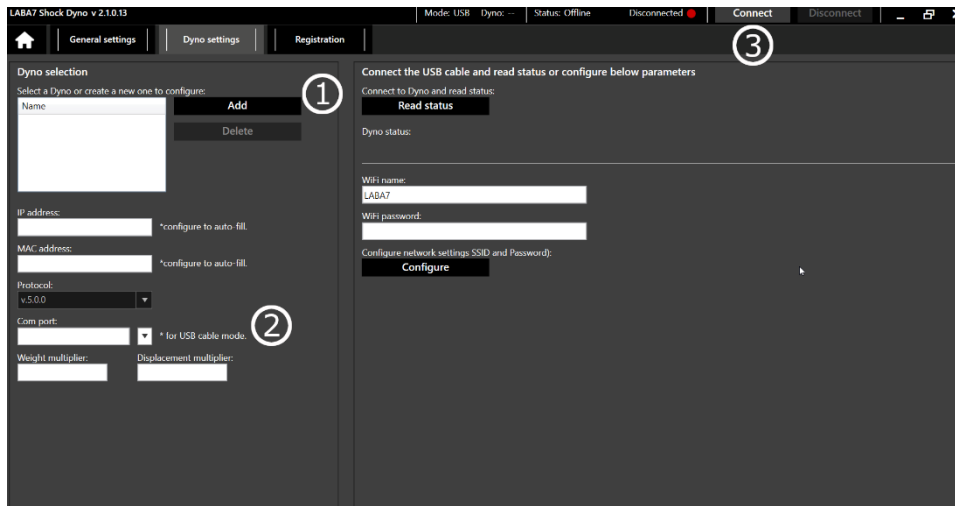

Figure 18
6. Add a new Dyno model by clicking Add button (Figure 18 – Step 1).
10. From 2 newly appeared com-ports select **COM6 - LABA7 Dyno** (Figure 18 – Step 2).
11. Press Connect (Figure 18 – Step 3).